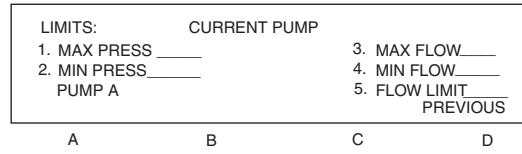
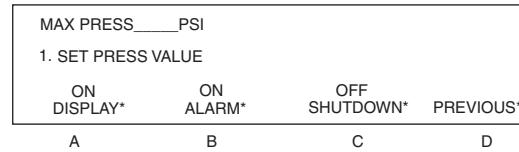

Figure 3-7 Limits menu
Figure 3-8 Limits setpoint (Max Press) menu
1. Press the LIMITS key on the keypad. To display the Limits menu, Figure 3-7, enter the number of the limit you wish to program using the number keys. This will cause one of five limit setpoint menus to appear, MAX PRESS, MIN PRESS, MAX FLOW, MIN FLOW, or FLOW LIMIT. The MAX PRESS limit setpoint menu is shown in Figure 3-8.